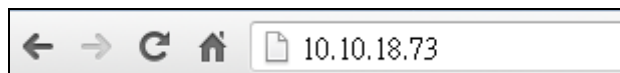

Figure 3-52: IEI iMAN Web Address
- Step 2:** On the remote management console, open a web browser. Enter the managed system IP address in the web browser (**Figure 3-52**).